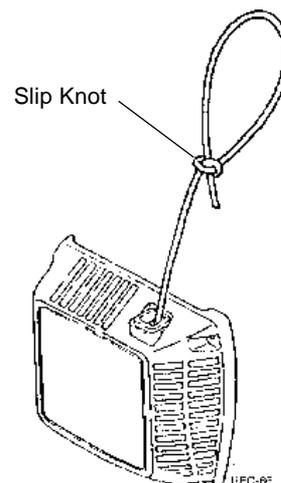

Figure 4.11 Use of Slip Knot
STEP 3. While holding the reel in place with your thumb, pull the starter rope from the reel notch and then thread the rope through the rope guide in the reverse order of disassembly. To prevent the rope from rewinding into the housing, tie a slip knot in the rope where it exits the rope guide. (Figure 4.11)